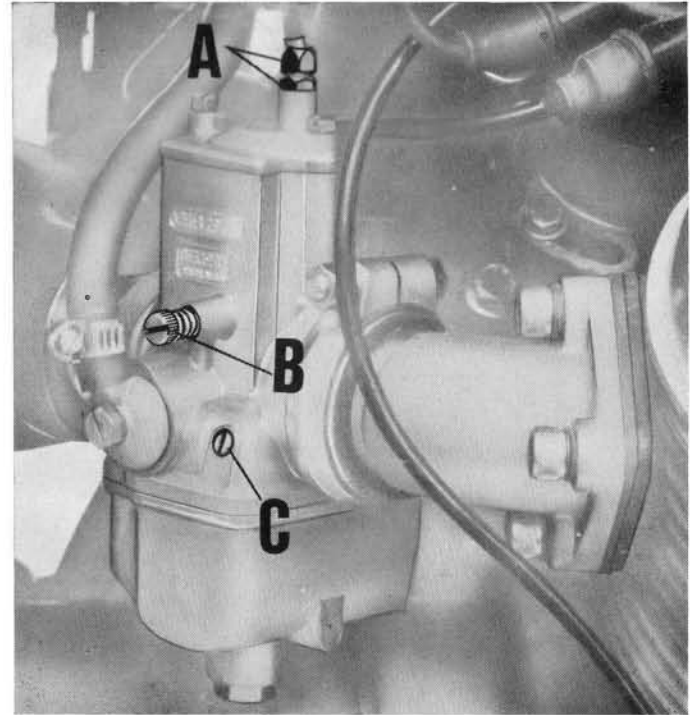

Fig. 17
- 2) With the filter box and the rubber inlet manifold removed, check that both gas valves open at the same time. This is done by turning the throttle grip and at the same time feeling with your fingers on the carburetor slides if these open simultaneously by the same amount. Should one valve open before the other, correct by setting screw A (See fig. 17) in the position where by turning the throttle both valves open simultaneously.
- 3) Adjust the idling speed by acting on screw C in fig. 17. Screwing this in reduces the fuel flow and viceversa increases it. To adjust, tighten the screw and then undo it $1\frac{1}{2}$ -2 turns for the left cylinder carburetor and 2- $2\frac{1}{2}$ turns for the right cy-
linder carburetor. With the engine revolving at about 1000-1200 r.p.m., disconnect the plug lead of any one of the cylinders and lightly turn screw C in fig. 17 of the opposite carburetor on to the position which will give the best idling speed, i.e. until the engine revs increase slightly. The same operation should be repeated
- 4) Disconnect the R/H cylinder plug lead, start the engine, and ensure that it stops after firing 4 or 5 strokes. If it dies out earlier or later, it is necessary to adjust idling screw B in fig. 17 to the point where the engine will stop after firing 4 or 5 times.
If the R/H cylinder is normal, the engine should stop after firing 4 or 5 times. If not, screw B in fig. 17 should be similarly adjusted to the position where it does so. The L/H cylinder plug lead is then reconnected.